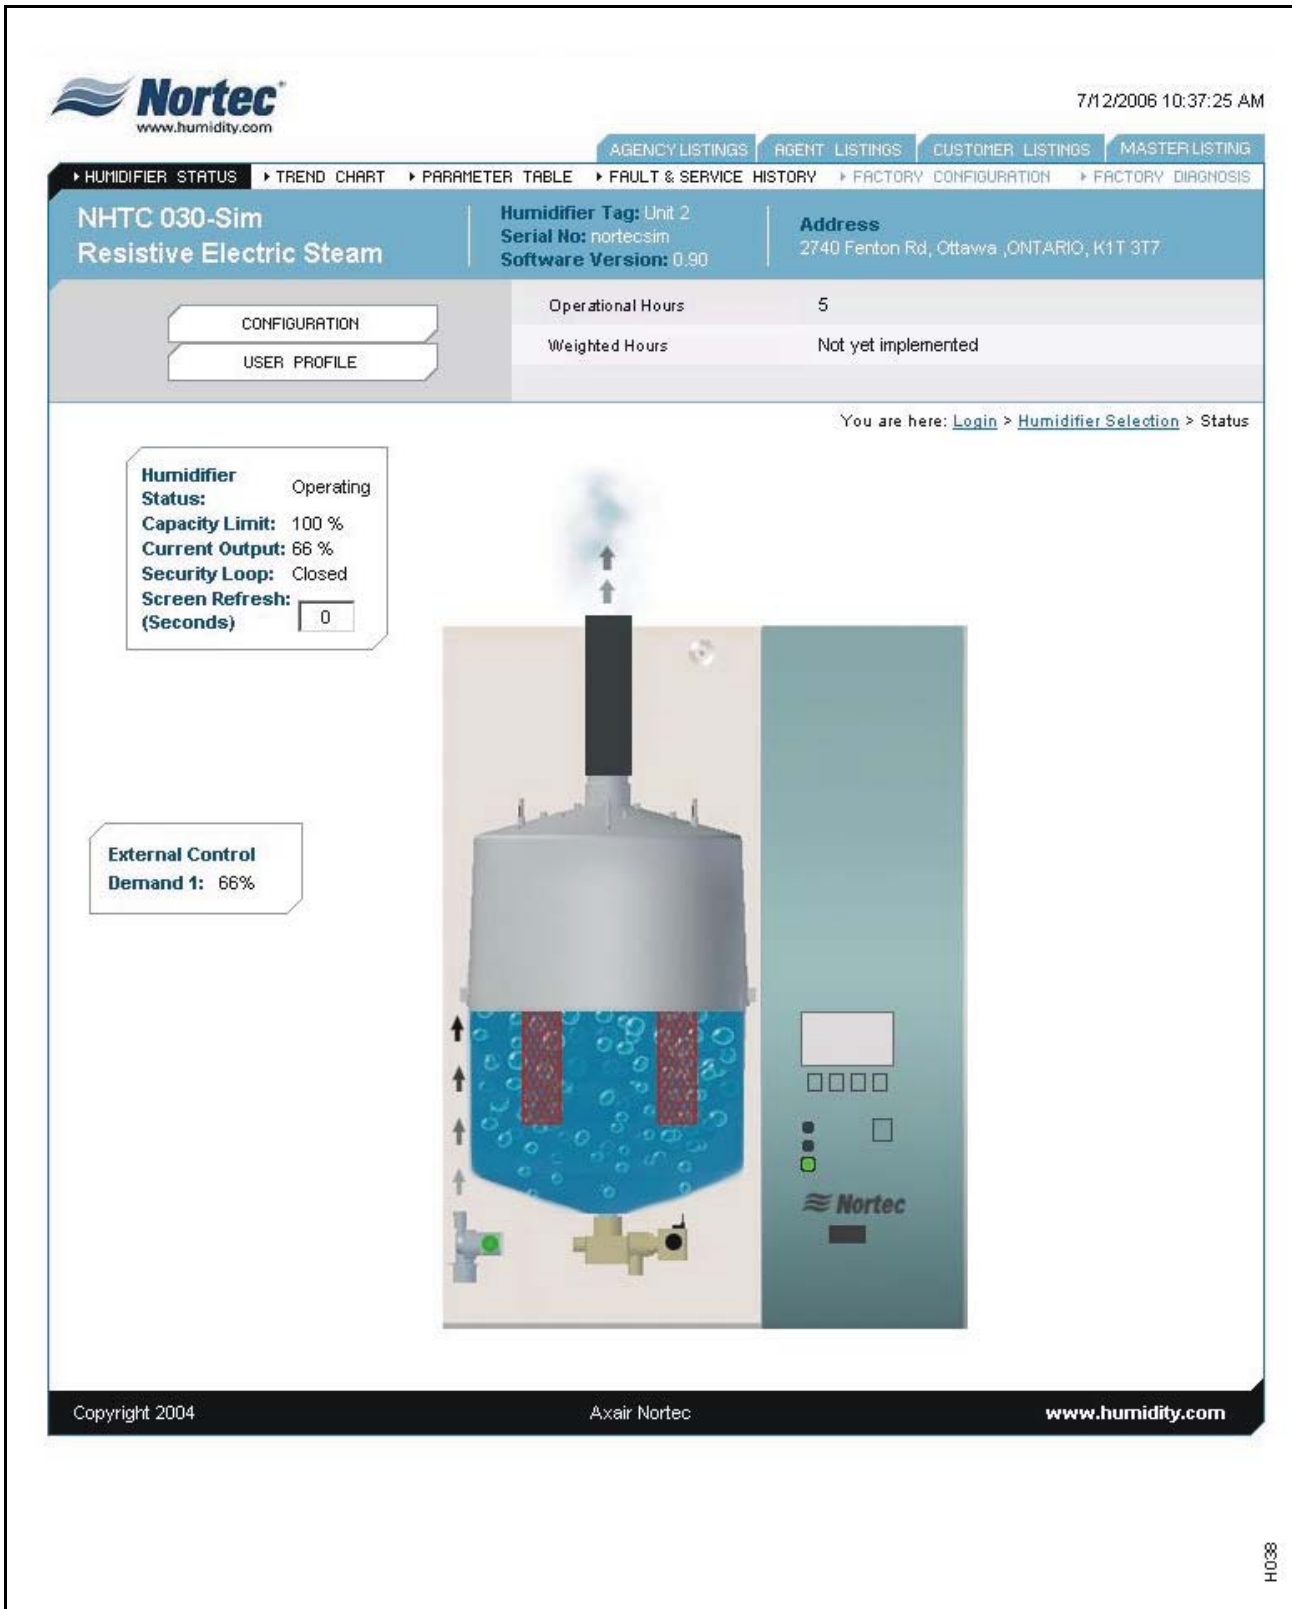

Figure 30. NORTEC OnLine Monitoring
- (1) NORTEC OnLine enables secure, internet based monitoring, simplifies interoperability and automated email service notification. Using standard Internet Explorer, version 6.0 or newer, NORTEC OnLine provides both monitoring and control, from any location with Internet access, for a period of one year. (See Figure 30.) During the service period, NORTEC OnLine will also generate automatic e-mails when scheduled service is required and/or abnormal operation occurs. Up to three customer(s) e-mail addresses may be added to the automatic notification feature, to provide instant notification.
- (2) NORTEC OnLine factory technicians will remotely view each humidifier weekly and record key status information, which will be used for an annual report to the key customer contact. This contact will also receive notification of corrections, or service recommendations from the NORTEC OnLine technician responding to automated e-mail notifications.
- (3) The factory-installed NORTEC OnLine controller is located internally to the humidifier.
- (4) Key features of NORTEC Online include: